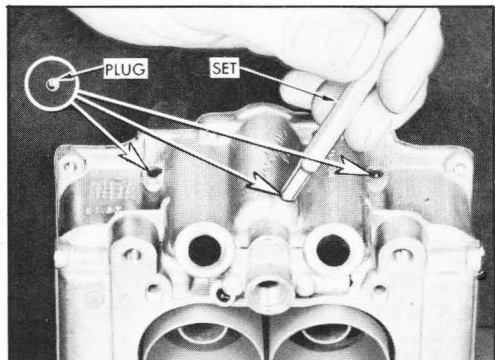

Figure 3-88—Installing Lead Ball Plugs
1. Install lead ball plugs in choke housing, using Plug Set T-25053 (tool in figure 3-88).